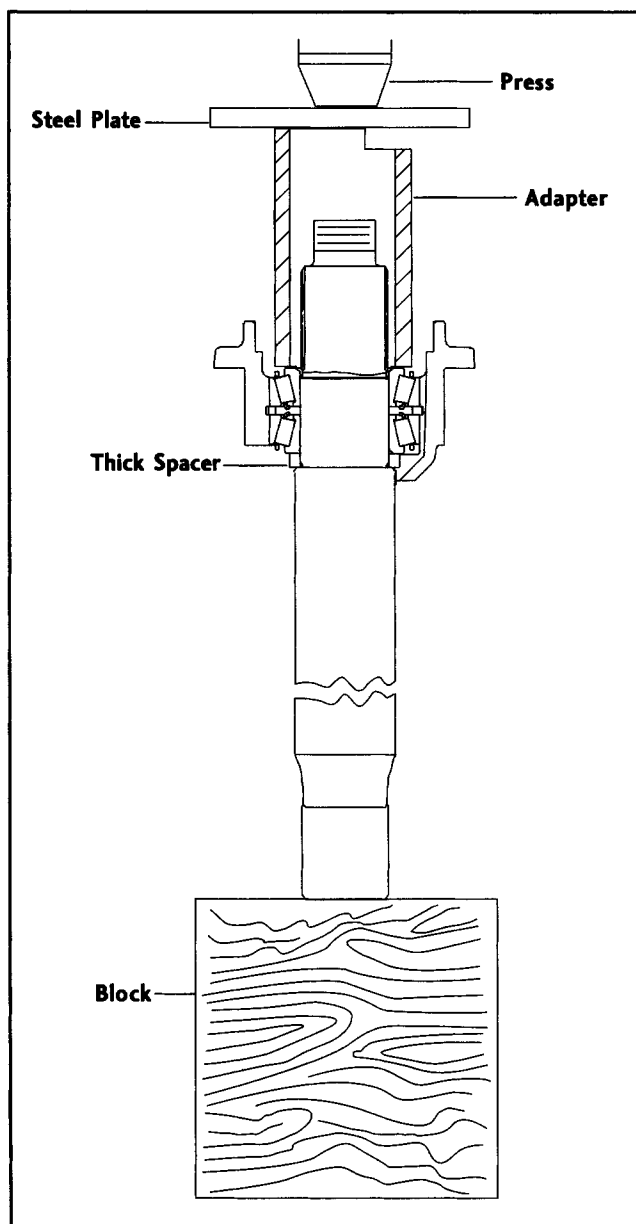

Figure 12
3. Install subassembly onto the output shaft, using a press and the adapter. (See Figure 12)